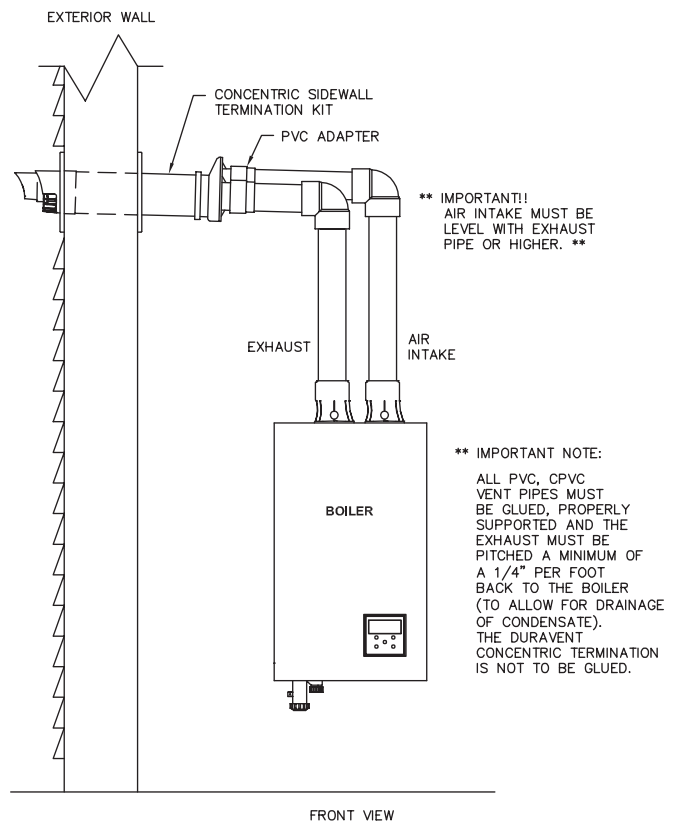

Figure 3.8: Optional Concentric Vent Kit Installation
- d. Figure 3.8 shows approved sidewall vent configuration using an optional concentric vent termination kit. 2" (54837) or 3" (54498).